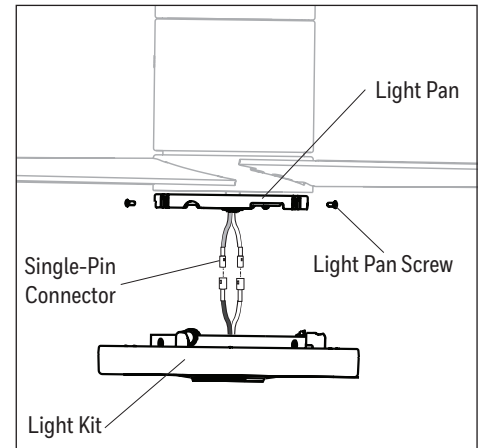

Figure 4.6
6. Remove the three light pan screws preassembled to the light pan. Connect the single-pin connectors from the fitter plate to the single-pin connectors from the light kit -- blue to blue and white to white. Secure the light kit with the previously removed light pan screws (Figure 4.6).